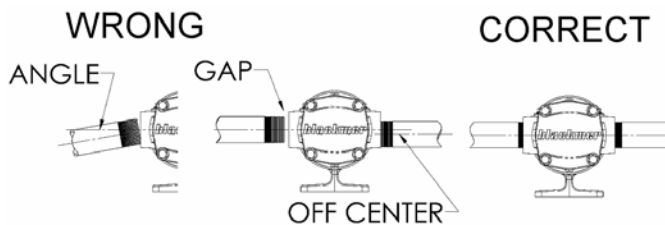

Figure 1
10. Check alignment of pipes to pump to avoid strains which might later cause misalignment. See Figure 1. Unbolt flanges or break union joints. Pipes must not spring away or drop down. After pump has been in operation for a week or two, completely recheck alignment.